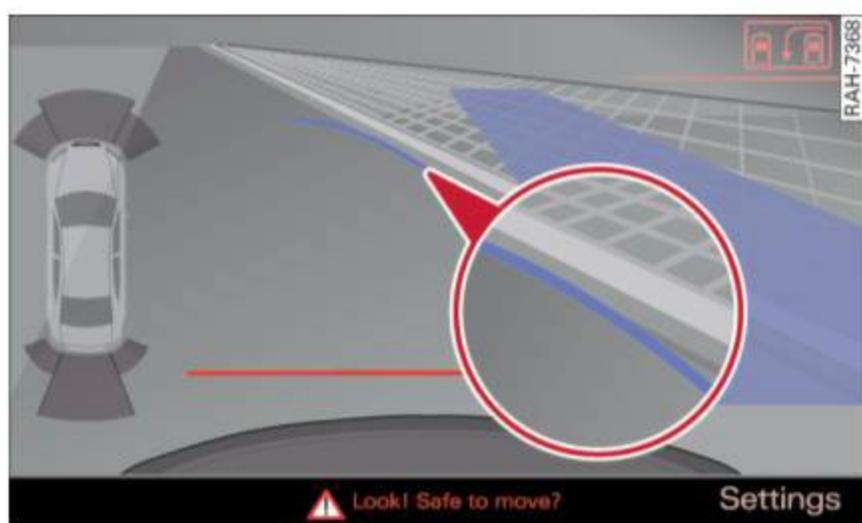

Fig. 118 MMI Display: Blue curve on the curb
- ▶ Back into the parking spot. Stop the vehicle as soon as the blue curve touches the curb ⇒ *fig. 118*.
- ▶ Continue to back up into the parking spot until the vehicle is parked parallel to the curb. (3) marks the rear bumper. You should stop driving in reverse as soon as and no later than when the red orientation line (4) abuts an object ⇒ ⚠! Keep an eye on the front of your vehicle while doing this ⇒ ⚠!
When there is an obstacle (such as a wall) next to the parking spot, choose a spot with more space on the sides. Position the long side of the blue area so that there is sufficient space from the curb. The area must not be on the curb. You will also need to start turning the steering wheel much earlier. There should be a sufficient amount of space between the curb and the blue curve, and the blue curve ⇒ *fig. 118* must **not** touch the curb.